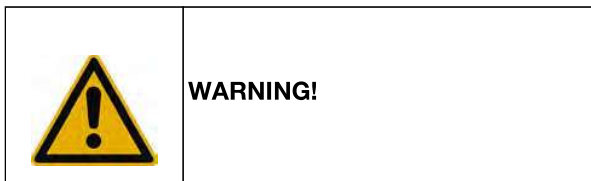

Fig. 1-4 1 Closing area
- Always keep a safe distance from the separating and closing area when the trigger is activated by the packaging! (see Fig. 1-4)